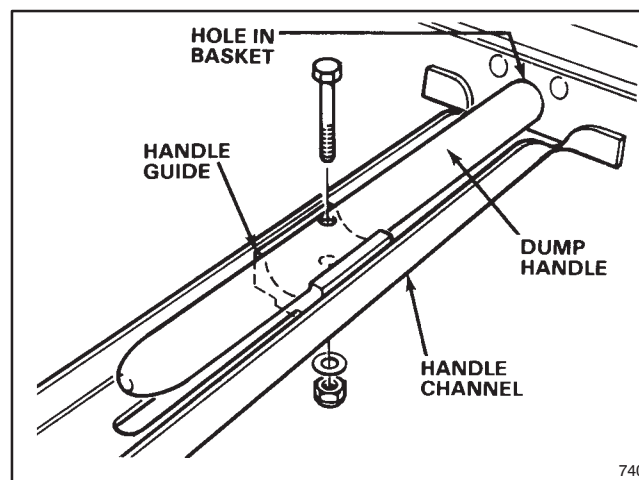

Figure 3
1. Open grass basket and slide dump handle through hole in top of basket and into handle channel (Fig. 3). Make sure handle grip points toward front of grass basket.
2. Lift up on end of dump handle allowing handle guide to be positioned onto handle and into channel (Fig. 3). Align hole in guide with hole in dump handle. Secure handle guide and dump handle to channel with a 1/4 x 2" cap screw, flatwasher and locknut. Dump handle and guide must slide freely in handle channel.